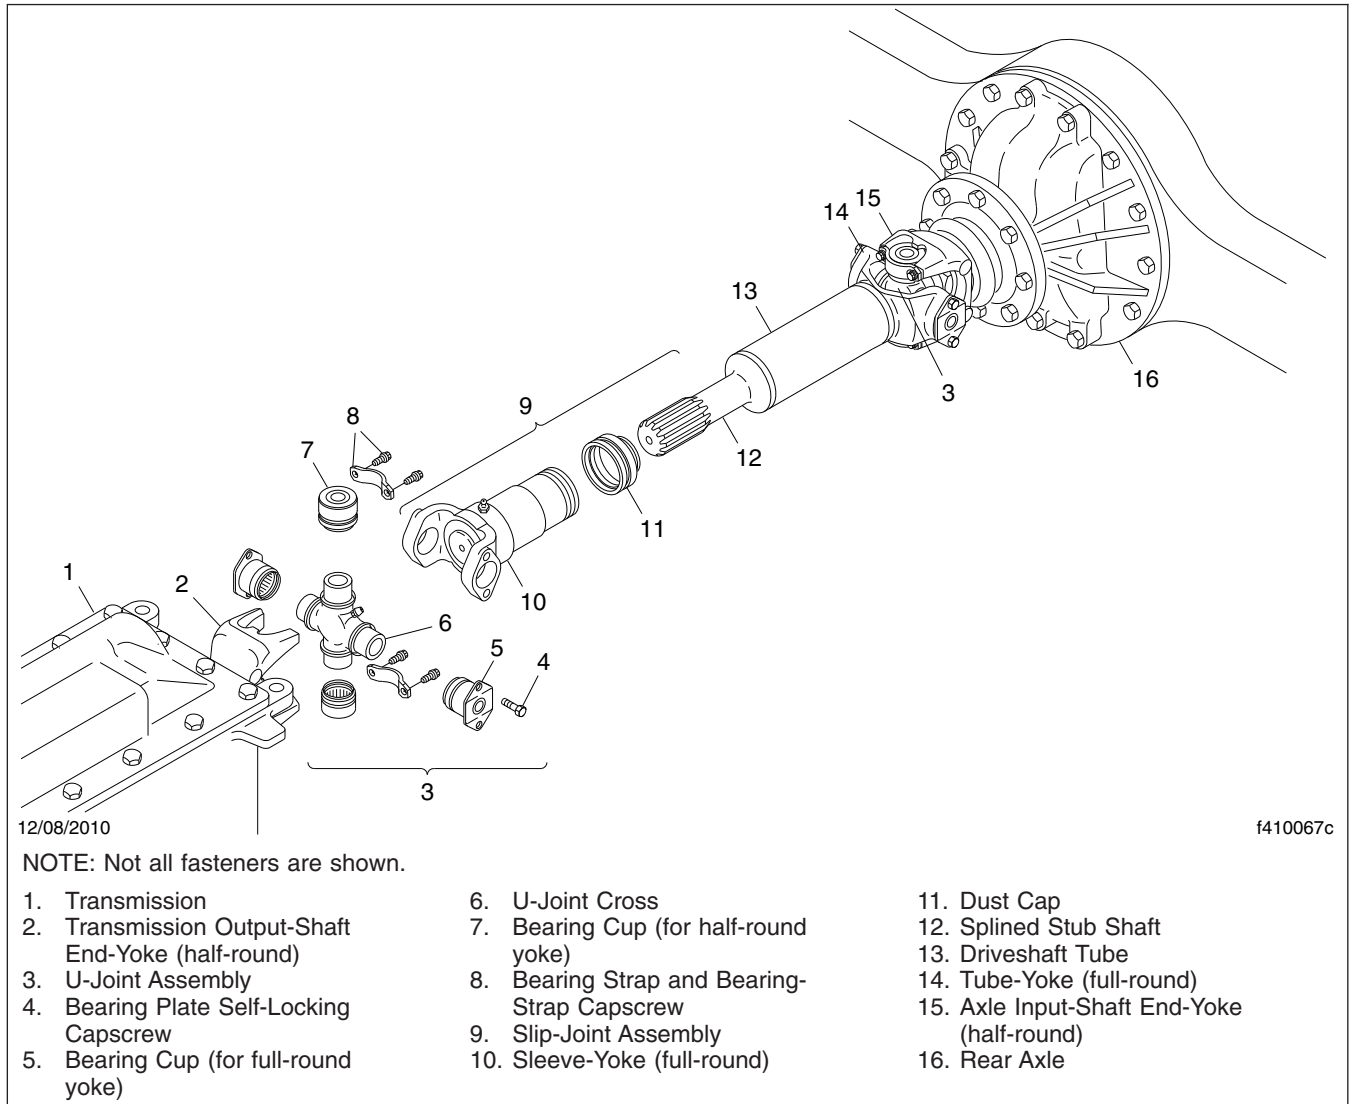

Fig. 2, Components of a Basic Driveline
3. Check the driveline yokes for cracks, and check end-yokes for looseness; see Fig. 2.